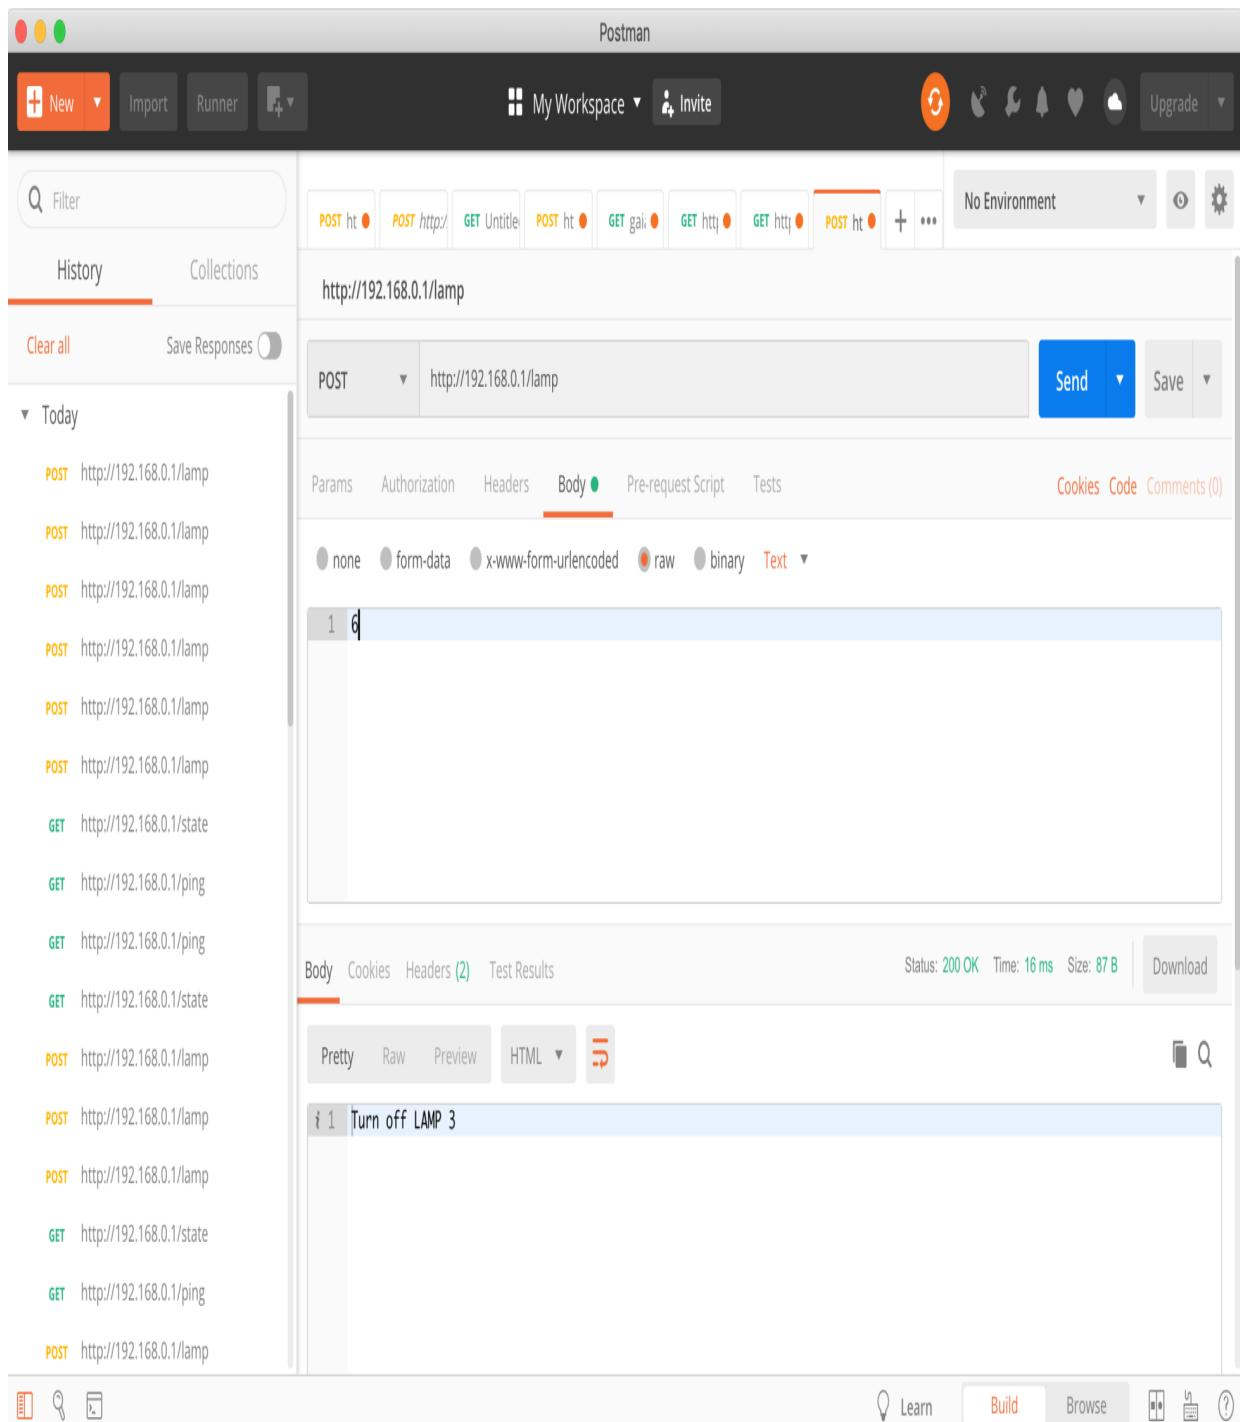

Figure 9.7: Testing the ESP32 web server with Postman
3. If you have set these fields, you can click on the Send button to send data to the ESP32 board. You will then get a response from the ESP32 board. *Figure 9.7* shows a program output from Postman after sending the `/lamp` request with a value inputted as `6`: